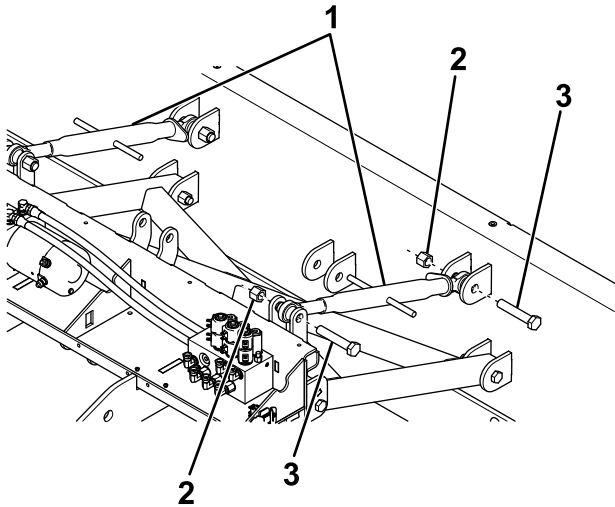

Figure 7
- Loosely attach the top links to the upper brackets on the center blade using 2 bolts (3/4 x 4 inches) and locknuts as shown in Figure 7.
- Loosely attach the top links to the upper brackets on the coupler assembly using 2 bolts (3/4 x 4 inches) and locknuts (Figure 7).